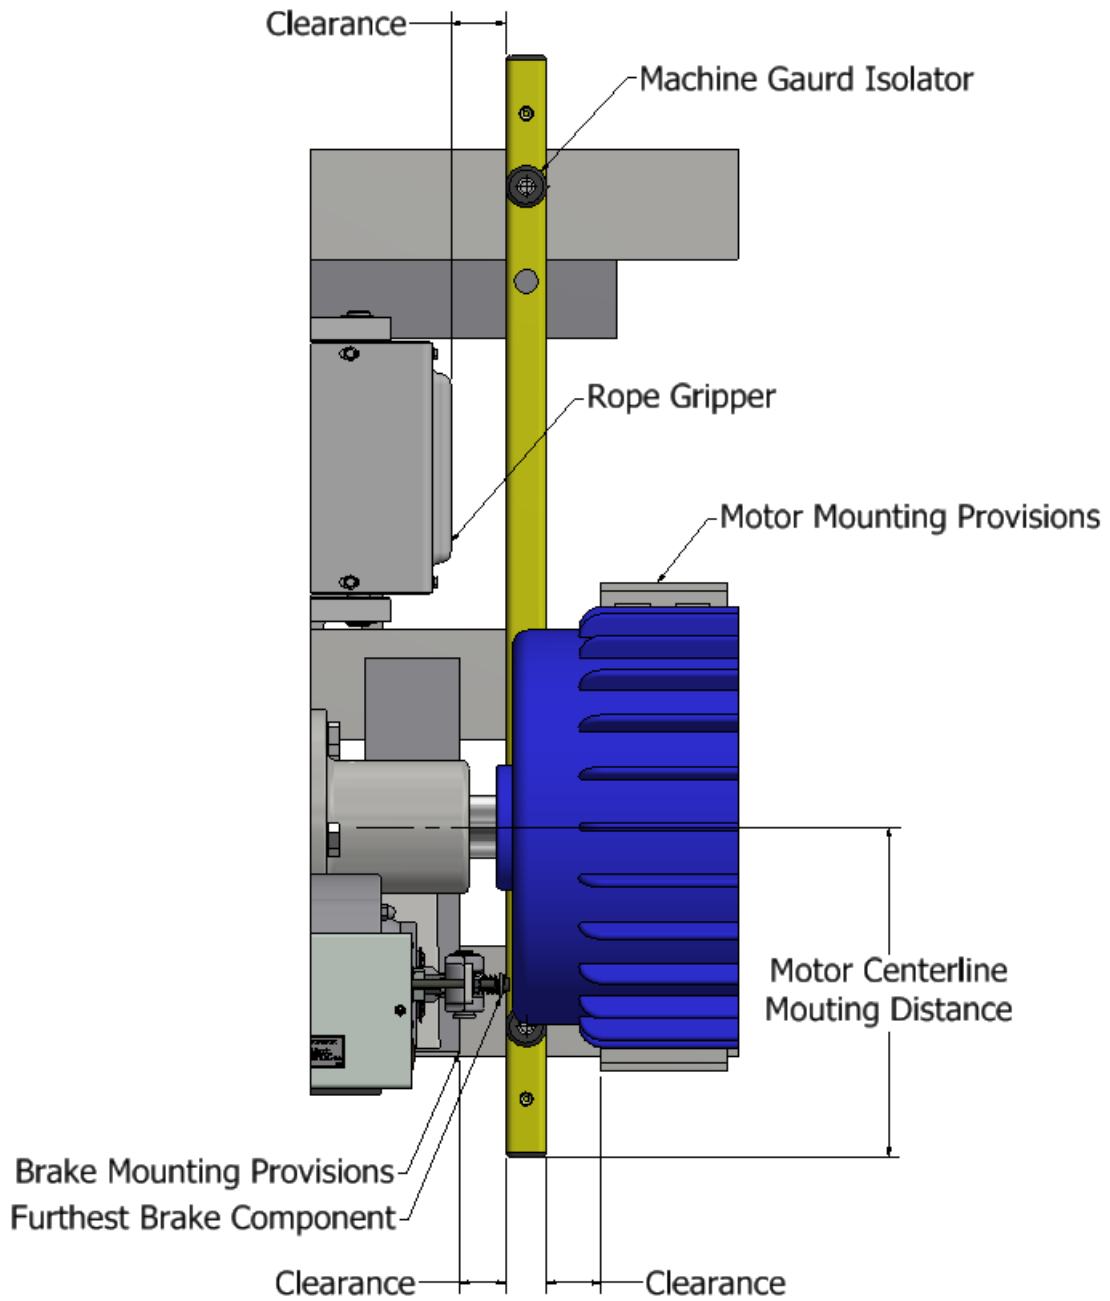

Figure 5: Machine Guard Corner Mounting Tube Assembly Placement
- Position the Machine Guard Corner Mounting Tube Assembly (p/n \_ \_-244) on the Overhead Traction Machine base. The Machine Guard Corner Mounting Tube Assembly (p/n \_ \_-244) should be placed underneath the motor shaft between the brake mounting and the motor mounting components. Ensure that the Machine Guard Corner Mounting Tube Assembly (p/n \_ \_-244) clears the rope gripper if applicable. The Machine Guard Corner Mounting Tube Assembly (p/n \_ \_-244) should be placed so the distance from the shaft centerline to the end of the Machine Guard Corner Mounting Tube Assembly (p/n \_ \_-244) corresponds to the correct entry in the Motor Centerline Mounting Distance table below (Table 2). Reference the figure below for proper tube placement (Figure 5).